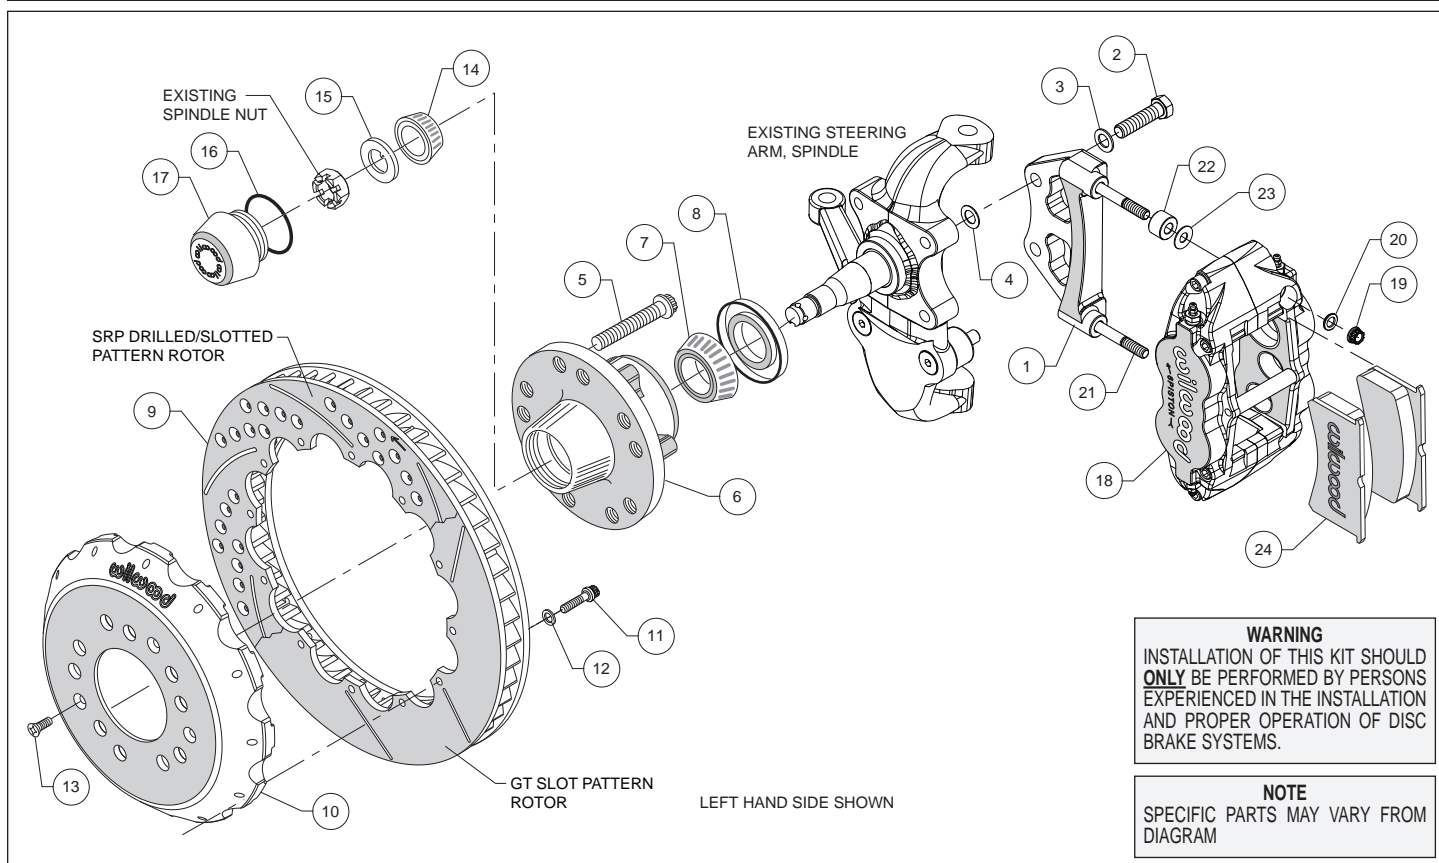
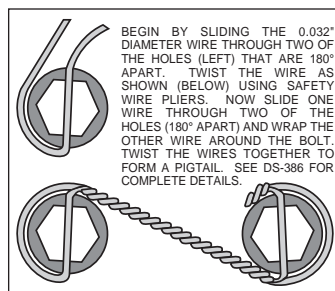

Figure 1. Typical Installation Configuration
Figure 3. Safety Wire Diagram
Assembly Instructions (numbers in parenthesis refer to the parts list on the preceding page, and Figure 1):
- The caliper mount bracket (1) should initially be installed with clean, dry threads on the mounting bolts. Orient the bracket as shown in Figure 1, and install using bolts (2) and washers (3). Initially place one .032" thick shim (4) on each bolt between the bracket and upright, Figure 1 and Photo 1. Temporarily tighten the mounting bolts. **NOTE:** *The bracket must fit squarely against the mount bosses on the upright.* Inspect for interference from casting irregularities, machining ridges, burrs, etc. Later, after the caliper alignment has been checked, the mount bolts will be secured using red *Loctite*® 271.
- Install the grease seal (8) by pressing into the backside of the hub (6), flush with the end of the hub, Photo 3.
- Orient the rotor (9) and the hat (10) as shown in Figure 1 and Photo 4. Attach rotor to hat using bolts (11) and washers (12). Using an alternating sequence, apply red *Loctite*® 271 to the threads and torque bolts to 155 **in-lb**. For an added measure of security, the bolts may be safety wired using standard 0.032 inch diameter stainless steel safety wire as shown in Figure 3. Refer to Wilwood's data sheet DS-386 (available at www.wilwood.com/Pdf/DataSheets/ds386.pdf) for complete safety wire installation instructions.
- NOTE:** This kit contains distinct right and left hand calipers that must be mounted in a specific direction, as described below. Lubricate the caliper mounting studs (21) with lightweight oil. Initially place one .035" thick shim (23) and one spacer (22) on each stud between the caliper and the bracket, as shown in Figure 1 and Photo 7. Mount the caliper (18) onto the bracket (1) using lock nuts (19) and washers (20), Figure 1. Ensure that the caliper is mounted so the largest pistons are at the rotor exit end of the caliper, in relation to the direction of rotor rotation. Temporarily tighten the lock nuts and view the rotor through the top opening of the caliper. The rotor should be centered in the caliper, Photo 8. If not, adjust by adding or subtracting shims (4) between the bracket and the upright. Always use the same amount of shims on each of the two mounting bolts. Once the caliper alignment is correct, remove the bracket mounting bolts (2) one at a time, apply red *Loctite*® 271 to the threads, and torque to 90 ft-lb.